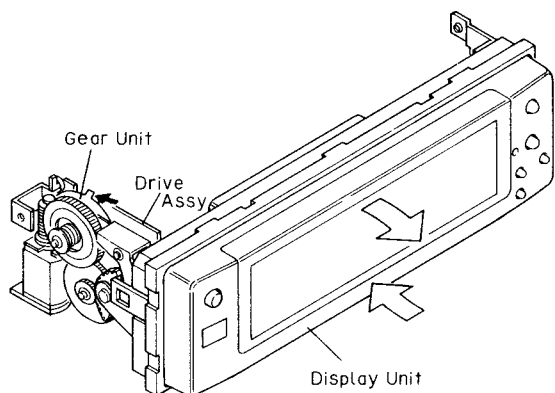

Fig.5
- 1.While holding the tab of gear unit at locations indicated by black arrow.(Fig.5)
- 2.Press the display unit at locations indicated by white arrows.(Fig.5)